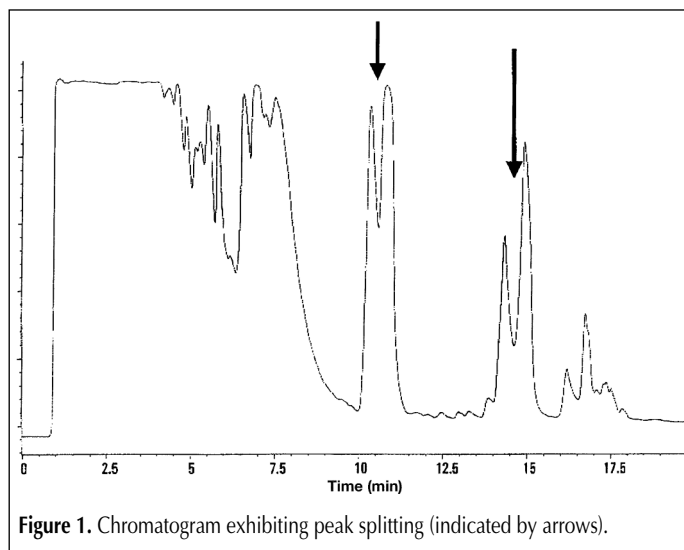
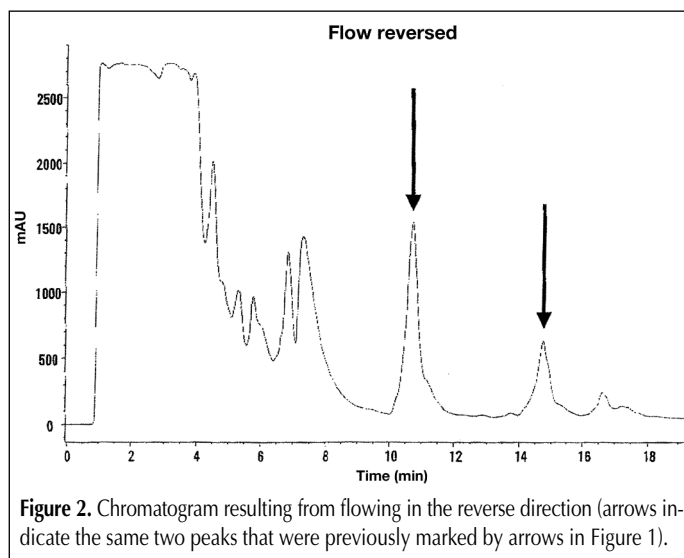

Figure 1. Chromatogram exhibiting peak splitting (indicated by arrows).
Figure 2. Chromatogram resulting from flowing in the reverse direction (arrows indicate the same two peaks that were previously marked by arrows in Figure 1).
Recently, I observed split peaks in a chromatogram (shown in Figure 1) and, being a reader of your column, followed your advice and reversed the flow into the column. I observed the elimination of the split peaks (Figure 2). I tried running the column with strong solvent to clean the frit, but it didn't work. Now what should I do?
Because you are doing large injections on this column, any of the above could be the culprit. By reversing the flow through the column (as shown in Figure 2) and observing the loss of peak splitting, you have eliminated the first two possibilities from being the cause. Therefore, you have taken the correct first step in troubleshooting the problem. By inspecting the chromatogram in Figure 2, it can be observed that the peak shapes are not very symmetrical, especially for the two peaks of interest (indicated by arrows). This may be caused by the material in the sample, but since you mentioned in your notes that the peak was expected to be clean from previous analytical chromatograms, I believe that there is probably material imbedded in the inlet frit that is blocking the smooth introduction of sample evenly onto the column. Also, in the reverse flow direction this debris interferes (although less so) with the elution profile from the column. Because you have flushed the column to clean off debris from the frit and this has not worked successfully, I would suggest that you carefully remove and change the frit (1).